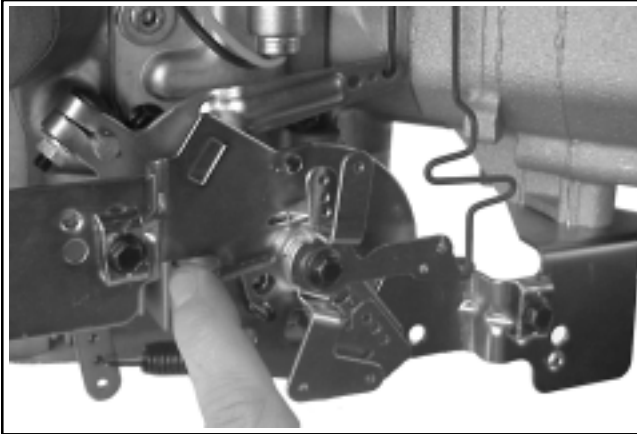

Figure 11-102. Rechecking Governor Linkage Adjustment.
3. Check how the end of the linkage aligns with the hole in the lever. The end of the linkage should be in the center of the hole. See Figure 11-102. If it is not the governor lever must be readjusted.